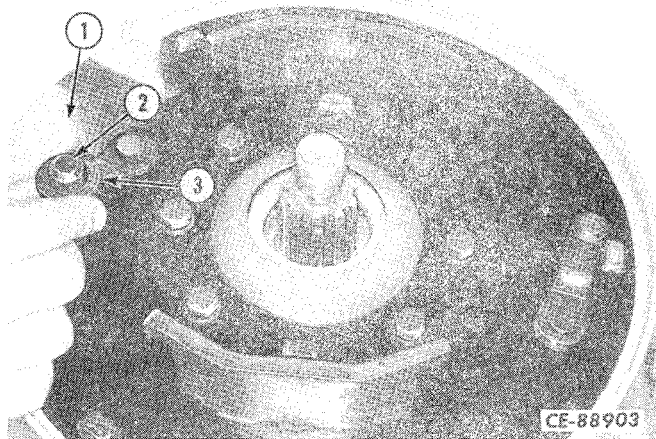

Figure 13-15
Remove the roller (3, Fig. 13-15). Remove the cap screws and lock washers that retain the brake backing plate (1). Remove the plate.
Position the backing plate (1, Fig. 13-15) on the transmission and secure with the cap screws and lock washers. Tighten the cap screws to the recommended torque (refer to "SPECIAL TORQUES" under "SERVICE INFORMATION").